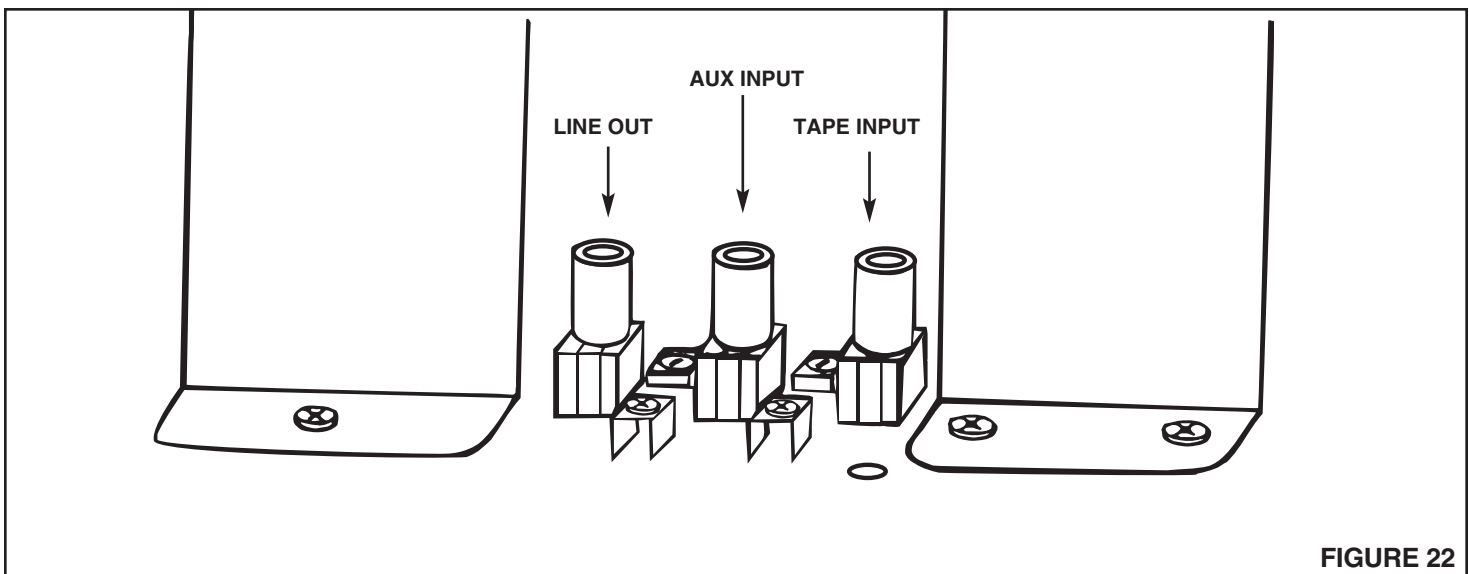

FIGURE 22
1. Refer to **Figure 22**. To connect an external audio source (NuTone Model CP-95 cassette, stereo system, VCR, TV, etc. with low level audio output) to the IMA-4406 master station, locate the **TAPE** and **AUXiliary** inputs on the upper center of the master station's main circuit board.